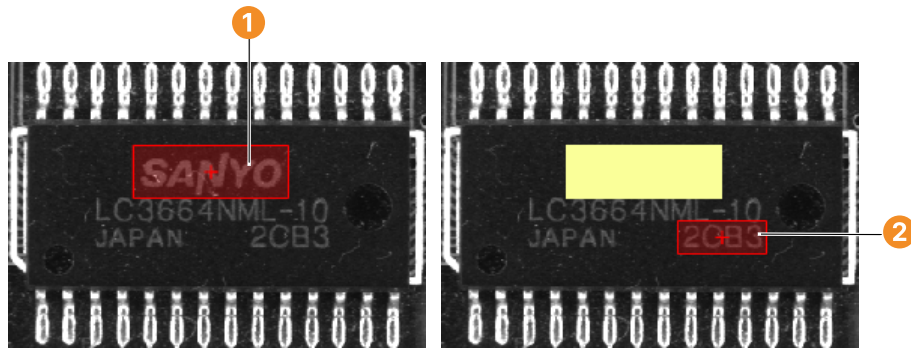

Figure 6.75: Drawing ROI rectangles.
You can modify the rectangle by dragging its sides or corners. Make the rectangle match the big label on the chip (see figure 6.75 1).
- Repeat the last step to create another rectangle and make it match the lower part of the label (see figure 6.75 2).